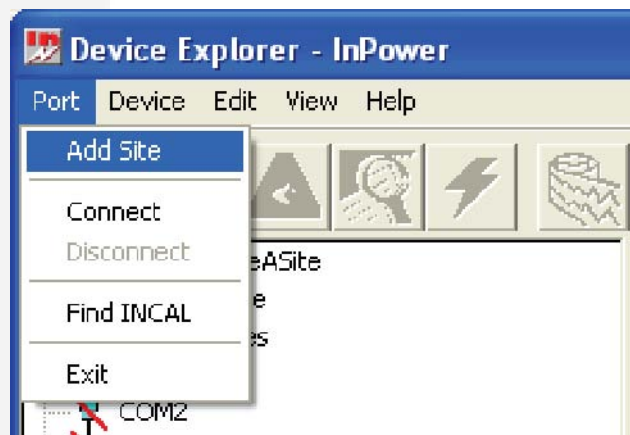

FIGURE 221. ADDING A SITE
1. Click on the **Port** menu and select **Add Site** (Figure 221).